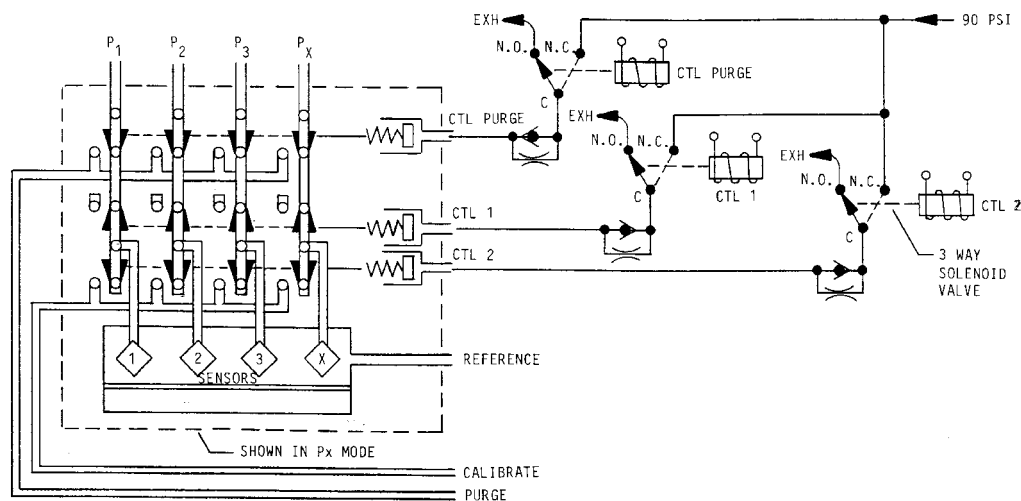

Figure 22 - ISO-Purge Valve Logic
3. With the valve assembly positioned as shown in figure 22, Remove the two bottom screws and the reference manifold.